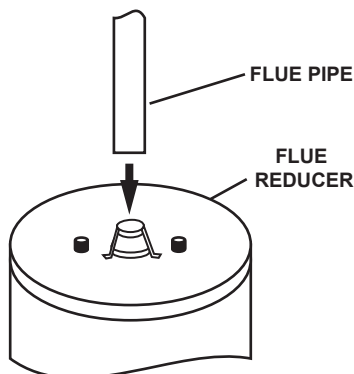

Figure 30: Attach Flue Pipe to Vent Reducer
6. Extend the flue pipe downward until it is close to the flue reducer. See Figure 30.